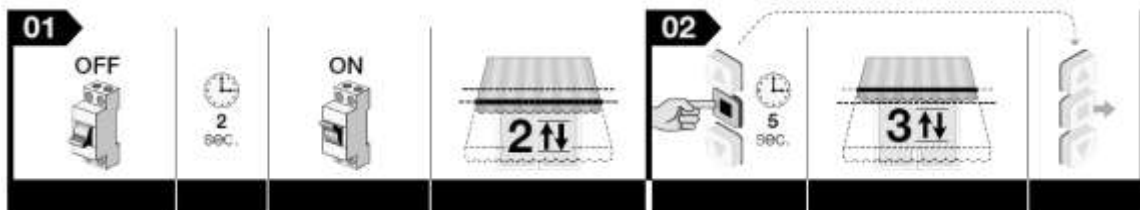

Figure 37
1. Cut out the AC power to the motor, wait for 2 seconds and put back the AC power to the motor; the motor will move twice and remain in waiting mode without any time limit, **see figure 37**.
2. Keep the ■ button pressed until the motor moves 3 times, once the motor has moved for the 3rd time, release the button, **see figure 37**.